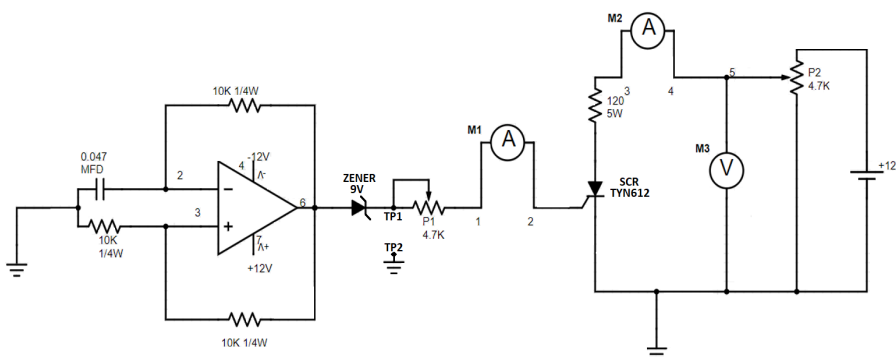

Figure 18
1. Connect the circuit, as shown in Figure 18, using patch cords.